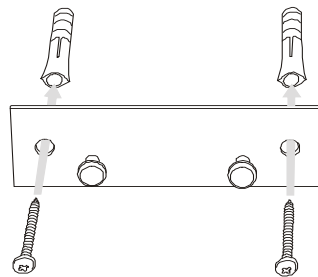
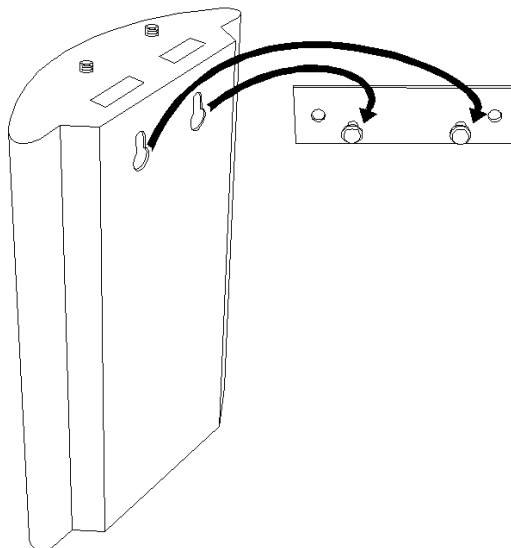

Fig. 3 – Gateway Holder Wall-Mounting
Fig. 4 – Gateway Hanging
- The 2N® BRI Lite is designed for mounting on a vertical surface. For this purpose a wall-mounting holder is available. Just fit the holder with dowels and screws (Fig. 3) to the wall and hang the gateway as shown in Fig. 4.